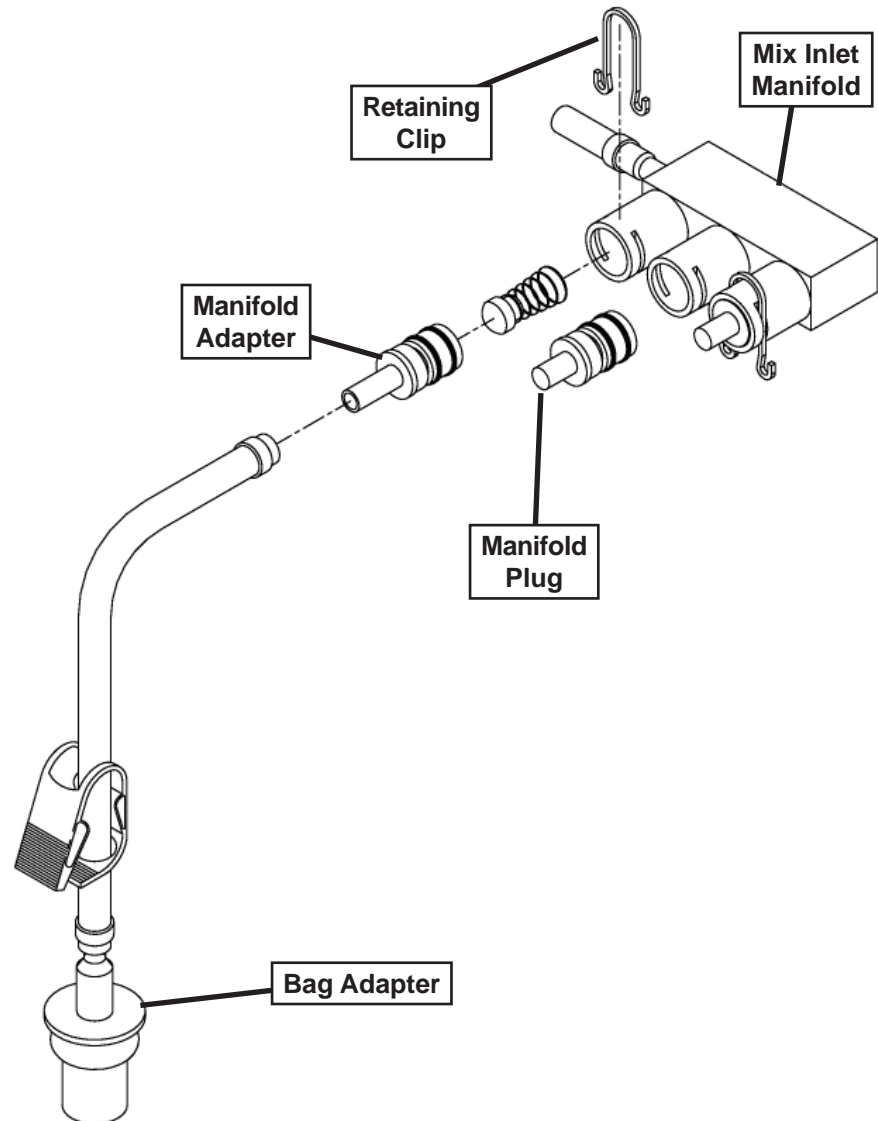

Figure 2-4 Bag Connection System (Optional)
3. Push the manifold adapter with spring and valve into the left port (nearest the manifold outlet) of the mix inlet manifold and secure with a retaining clip. (Fig. 2-4).
3. Push the manifold adapter with spring and valve into the left port (nearest the manifold outlet) of the mix inlet manifold and secure with retaining clip. (See Figure 2-4).